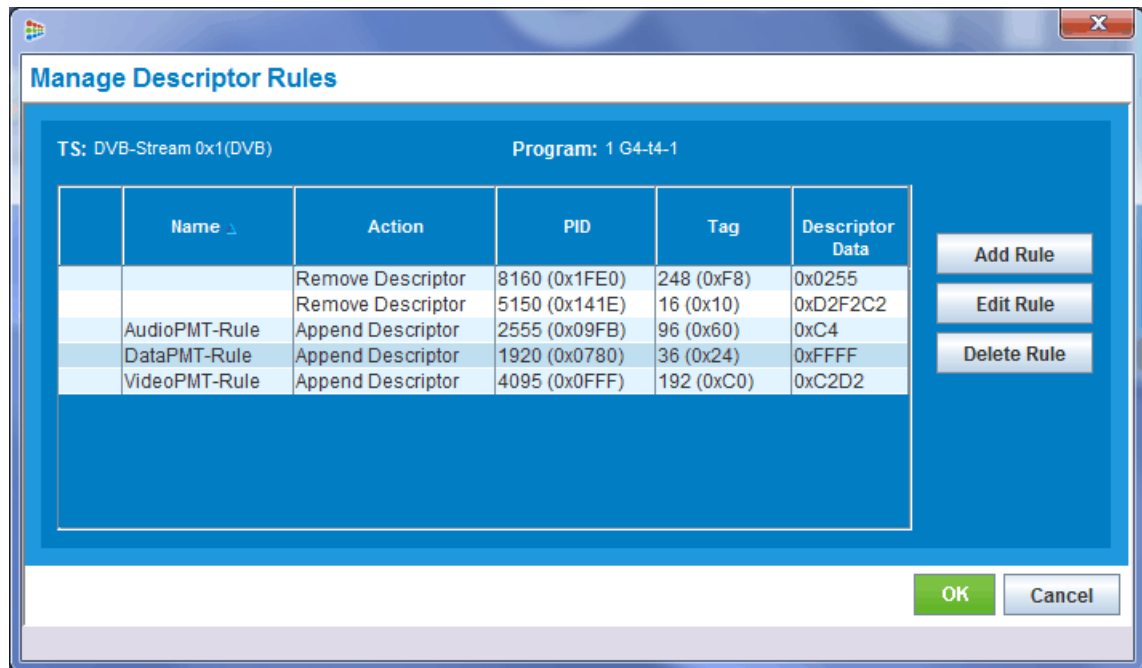

Figure 188. Manage Descriptor Rules - Rules Added
4. Click **OK** in the **Manage Descriptor Rules** window to apply the new rule change to the BNP, which will remove the “New” status from the far left of the menu (Figure 188).